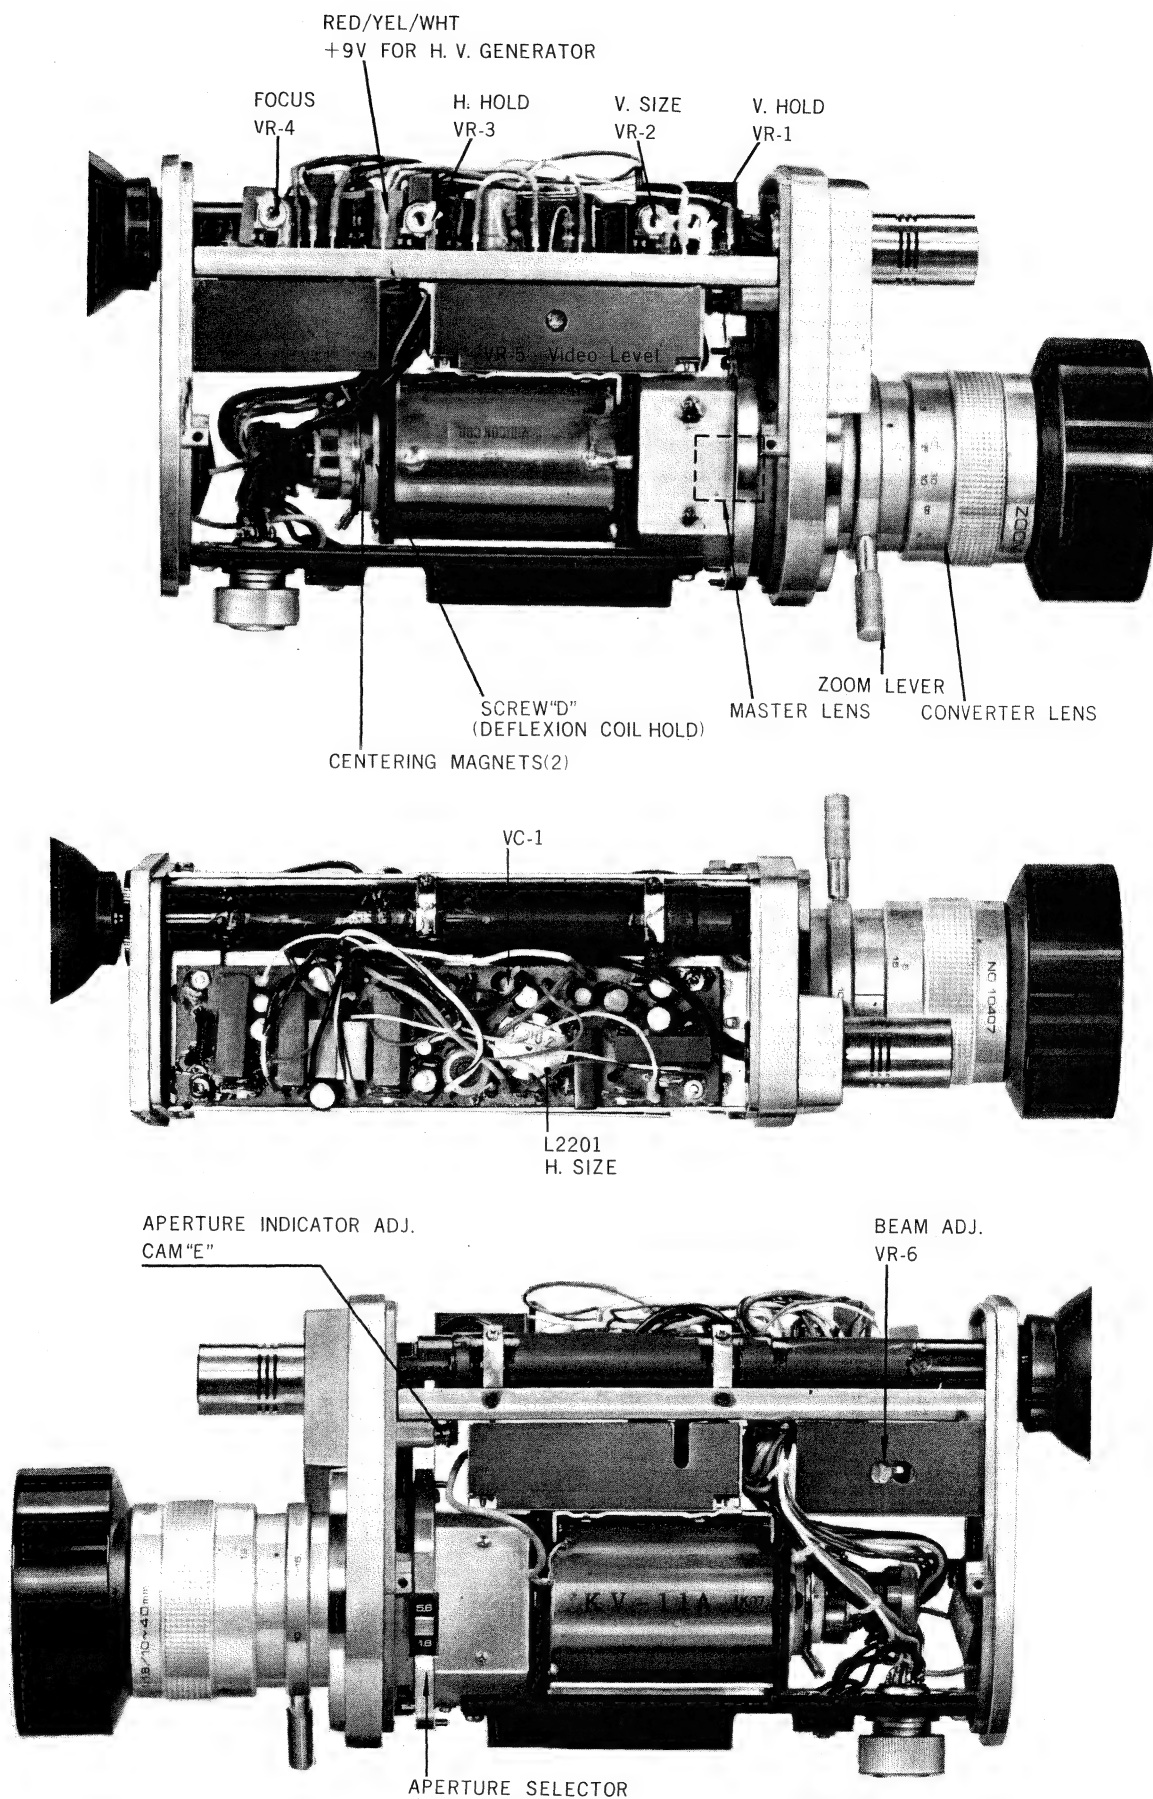
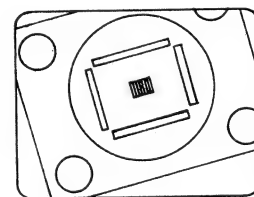

Fig. 2-2
Fig. 2-6
- a) Disconnect +9 V power supply lead wire (red/yellow/white) of High Voltage Generator Circuit. (Ref. to fig. 2-2).
If picture is tilted as shown in Fig. 2-6, loosen Screw "D" (fig. 2-2) and turn deflection coil until picture is straight.
Horizontal size can be adjusted by turning the upper part of L-2201 metal plate (shown in Fig. 2-2) with a pair of tweezers so that the horizontal size of monitor picture is minimum (maximum scanning condition).
Adjust VC-1 (shown in Fig. 2-2) so that a smeared or shiny white line does not appear following thick black line on resolution chart. (Ref. Fig. 2-9)
Aim camera at a florescent light. Zoom lever from TELE (40) to Wide (10) and adjust VR-6 (shown in Fig. 2-2) so that the white part of picture is clear (not out of focus).
If aperture indicator appears as shown in Fig. 2-13 (B) or (C), properly position by turning Cam "E" (Fig. 2-2).